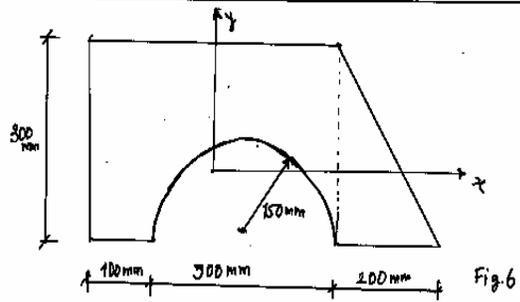

Fig. 6
- Q.4** (a) Determine the location of centroid, I_{XX} and I_{YY} of lamina shown in **Fig.6**. **07**